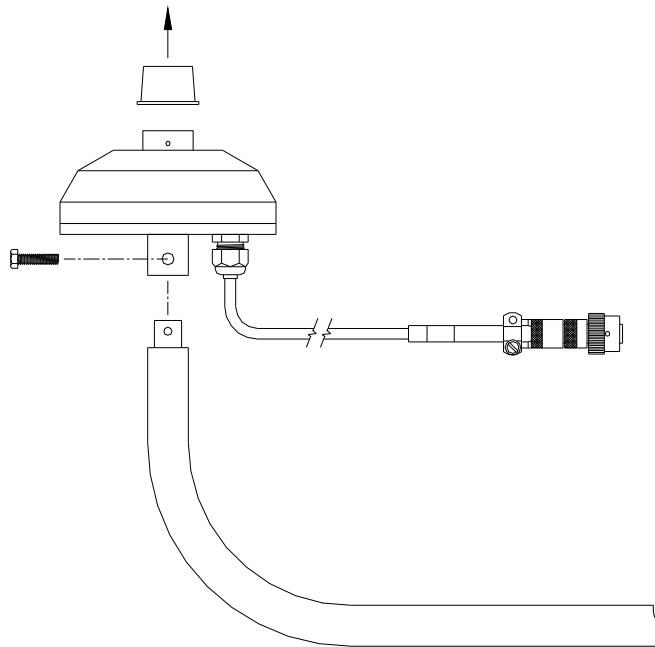

Figure 1: Solar Radiation Sensor Mounting Diagram
- 2/ Mount the sensor on the support arm by passing the securing screw through the horizontal hole in the sensor mounting post and then tighten the screw into the support arm (see Figure 1).